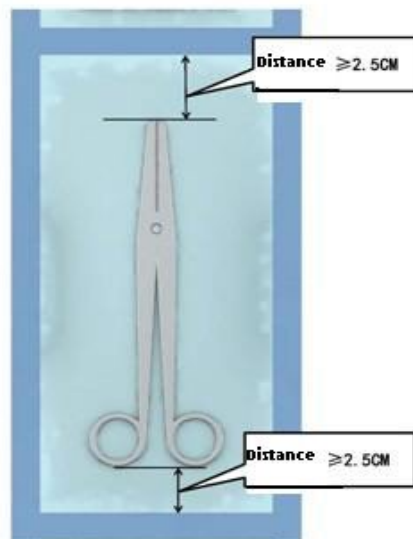

Figure 7
3. Select the corresponding width and length of sterilization bags depending on the size of the inside content. Turn the print function off and seal one edge of the sterilization bags. After that, put the items into bags. In accordance with the relevant provisions of the “WS310.2-2009”, the sufficient distance between the packaging margin and the inside content should be more than 2.5cm to avoid cracking. (Figure 7)